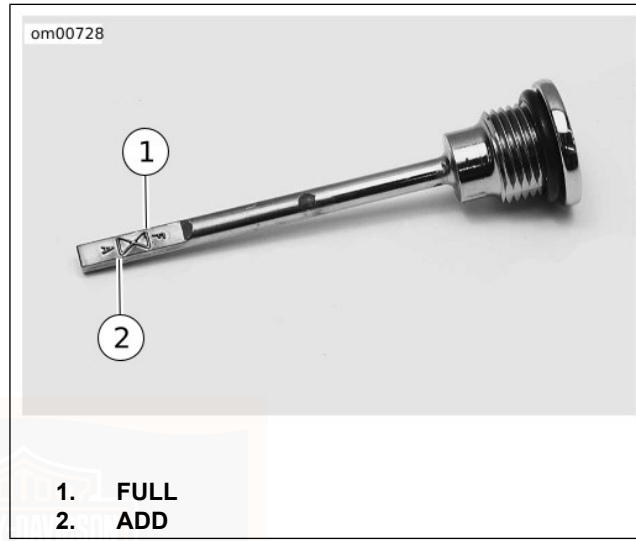

Figure 52. Transmission Filler Plug/Dipstick Lubricant Level
3. See Figure 52. Place back in filler hole but do not thread in. (Filler plug/dipstick should rest on top of threaded hole.) Remove filler plug/dipstick and observe lubricant level. Level should be between the full and low marks on the dipstick.